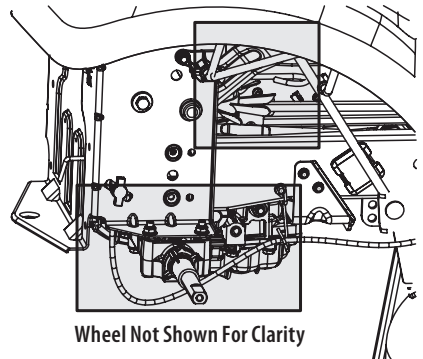

Figure 32
- Clean around and near the transmission, axle and the fan area (Figure 32).